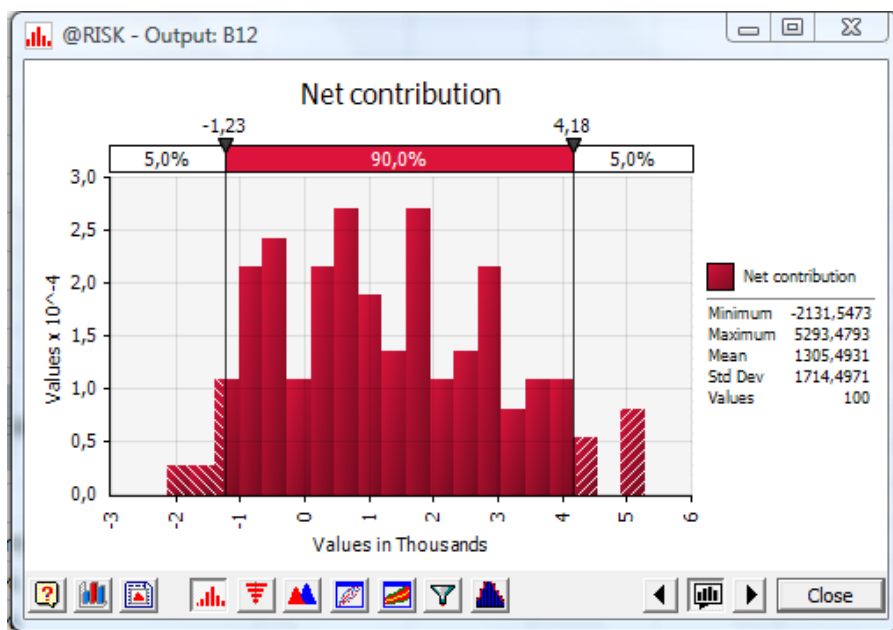

Figure 4: Histogram and simulation results for the soft pretzel model
Figure 4 shows the *@RISK – Output: B12* window. The numbers displayed in your window may be somewhat different because your particular run may have randomly chosen different input values, even though your model has exactly the same distributions.
- 6.1. Figure 4 shows the histogram of the Net contribution. Notice that the expected Net Contribution (\$1305) as well as other summary statistics, such as the standard deviation (\$1714), are displayed in the right-hand side of the figure.
- 6.2. The **two delimiters** (vertical lines overlaying the graph) are markers that allow you to determine cumulative probabilities. In Figure 4 the leftmost delimiter is at the fifth percentile as shown by the 5% in the scrollbar above the curve. This delimiter is at the x value of -1230 as shown above the scrollbar. Therefore, according to the model, there is a 5% probability that the Net Contribution will be less than or equal to -1230. The 90% shown in the scrollbar indicates that there is a 90% probability that the demand will be greater than -1230 but less than 4180. The rightmost delimiter shows that there is a 5% probability that the Net Contribution will be greater than or equal to 4180.
- 6.4. The two delimiters in Figure 4 can be shifted to display different cumulative probabilities. Click on a *delimiter bar* and drag it to the left or right while holding the left-button of the mouse down. Find the probably that **Net Contribution will be between** -2000 and 3800. (Answer: \approx 89%).
- 6.6. You have various options for formatting the graph. The buttons on the bottom of Figure 4 will reformat the graph to pre-specified configurations. For example, to draw the risk profile as a **Cumulative Distribution** function click on the button and select *Cumulative Ascending*. Alternatively, you can access all the formatting option by right-clicking over the graph, and choosing *Graph Options...*